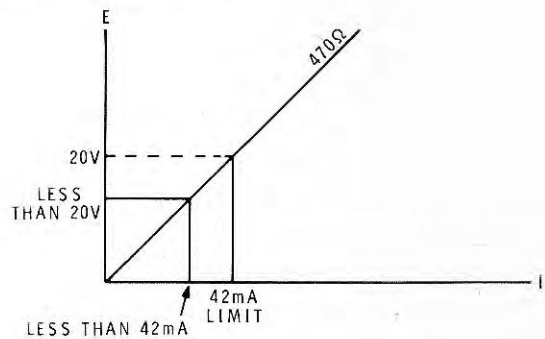

Figure 9
- () Turn the VOLTAGE control counterclockwise. The voltage and the current should decrease (Figure 9). Check in both CURRENT and VOLTAGE positions of the METER switch.